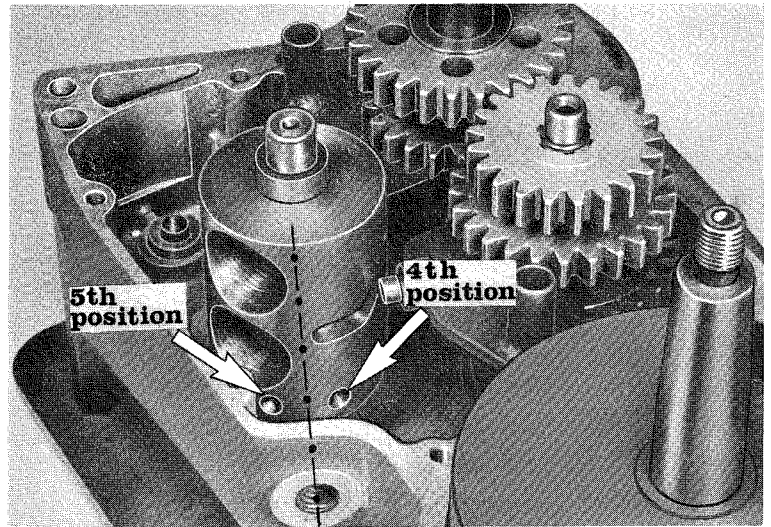

Fig. 18
18. Rotate the shifting drum until it is midway between the 4th and 5th gear position. See Fig. 18.